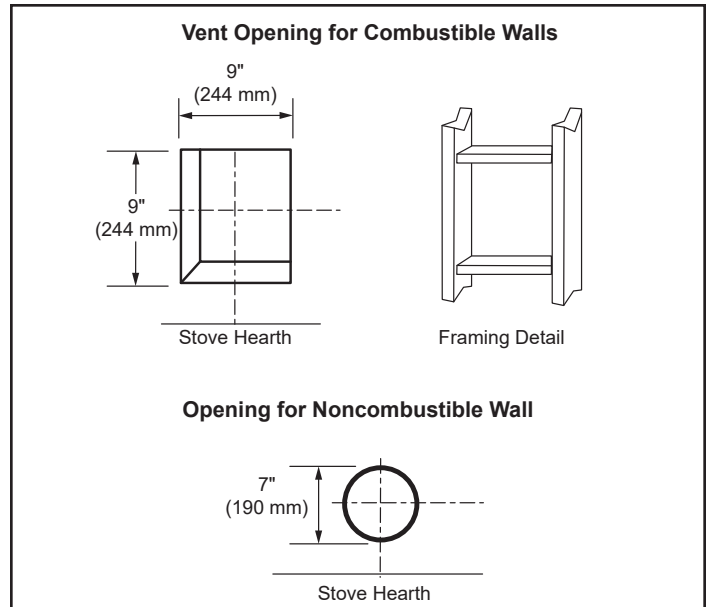

Figure 3.11 - Locate Vent Opening on Wall
1. Locate vent opening on the wall. It may be necessary to first position the stove and measure to obtain hole location. Depending on whether the wall is combustible or noncombustible, cut opening to size, Figure 3.11 (For combustible walls first frame in opening.) Combustible Walls: Cut a 9" H x 9" W (244 x 244 mm) hole through the exterior wall and frame as shown, Figure 30. Noncombustible Walls: Hole opening must be 7" (178 mm) in diameter.